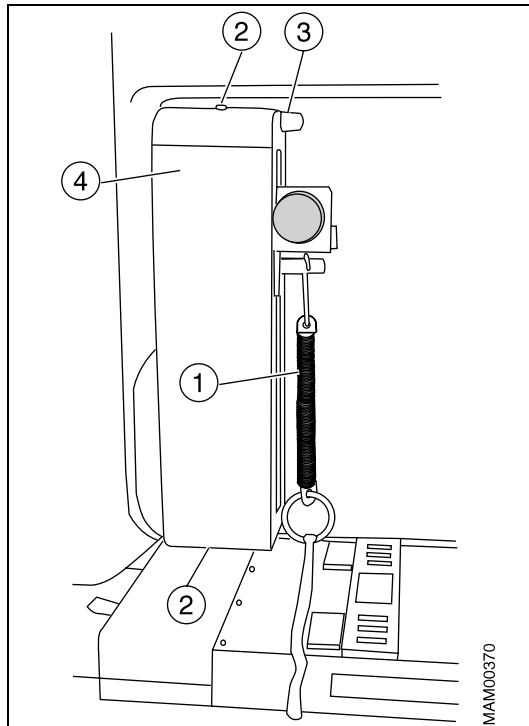

Fig. 2: Compression unit with covers
- Attach the spring scale as shown in (1/ Fig. 2 / p. 21).